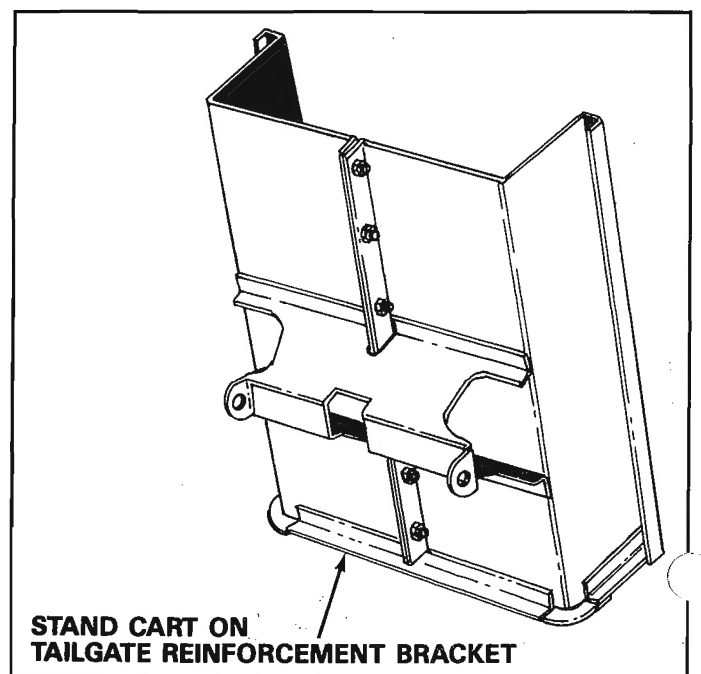

FIGURE 5
6. Position the tailgate reinforcement bracket over end of cart. See figure 5.
10. Reverse the cart position and stand up on tailgate reinforcement bracket and proceed with assembly steps 11 through 18. See figure 5.